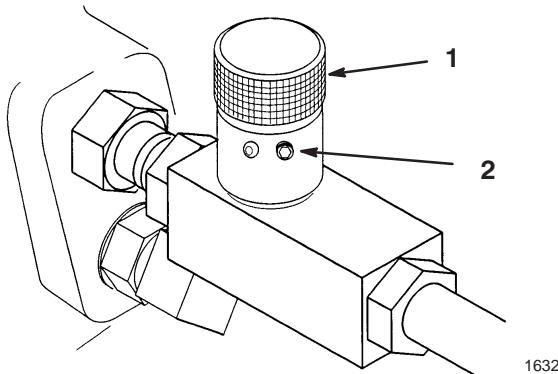

Figure 16
1. Loosen set screw and gently turn adjustment knob all the way to the right to close, then open 1–2 turns (Fig. 16).
3. Cycle raising and lowering snowblower several times. Rotate knob on flow control valve so a decent rate of approximately 3 seconds is obtained (Fig. 16).
4. Tighten set screw to lock knob in adjusted position. (Fig. 16).